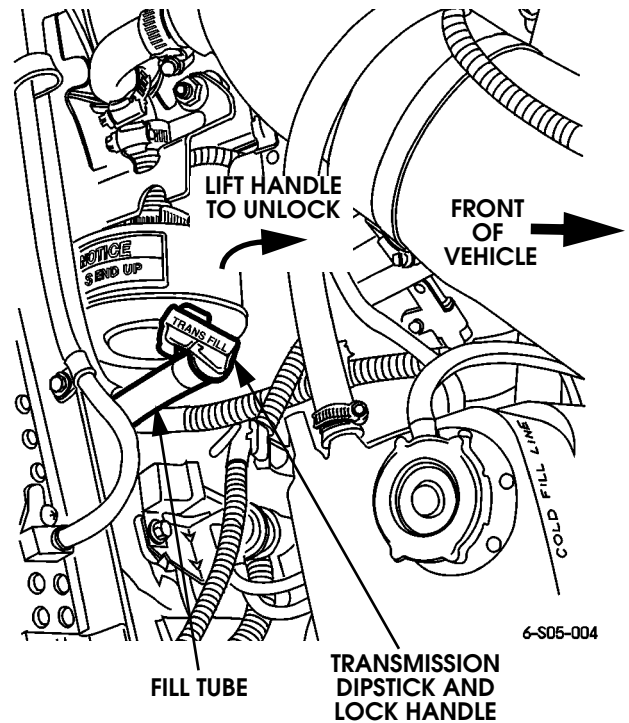
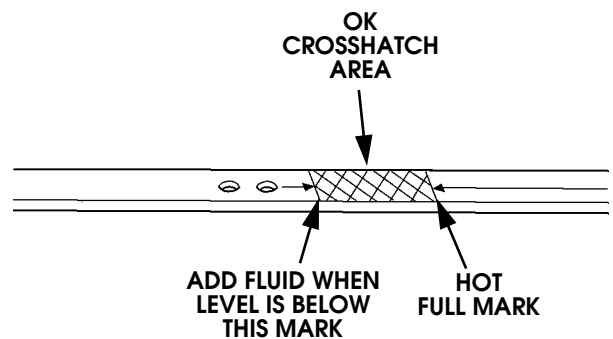

Figure 5-18: Releasing Transmission Dipstick Lock Handle
Figure 5-19: Transmission Fluid Level Marks
6. Unlock and remove dipstick (Figure 5-18). Correct fluid level is to hot full mark at top of crosshatch (Figure 5-19). OK level is anywhere in crosshatch area.